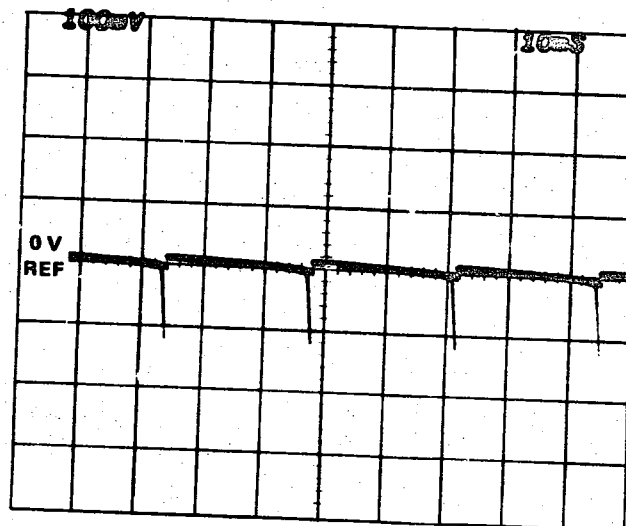

Fig. 6-9. Probe to Pin 9 of U280.
16. Push the 7S14 REP button (MAN button released). Change the test oscilloscope Amplifier to .1 V/Div and change the Time Base to 10 ms/Div. Move the probe to Pin 9 of U280 on the Horizontal board. Trigger the test oscilloscope for a waveform similar to that shown in Fig. 6-9.